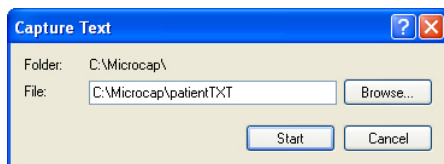

Figure 17. Naming the .txt File
5. From the *Transfer* menu, choose *Capture Text*. The Capture Text dialog box is displayed in Figure 17. Naming the .txt File, below.